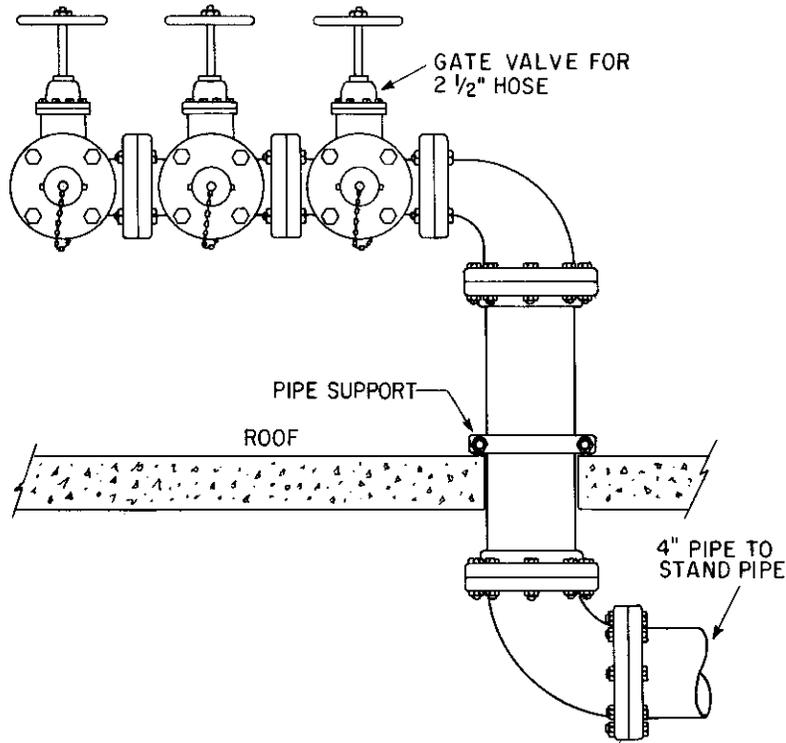

Fig. 2
may require a manifold with three hose connections fed from the same standpipe as shown in Fig. 2. The lateral piping to a hose connection on the roof is 2-1/2 inches in size. Hose should not be installed at these connections unless required by local or State ordinance or law. The thread on the valved outlet must be compatible with those used by the Fire Department that would normally respond to an alarm.
3.06 When regulations require that hose be installed at the roof connection a sufficient length should be provided to reach all edges of the roof. To facilitate handling, the hose may be made up in sections with no section being more than 100 feet in length. The hose should be coupled to the hose valve if located in the penthouse or other heated space. If necessary to use the arrangement shown in Fig. 2, the hose should be located in an easily accessible hose cabinet in the heated space.